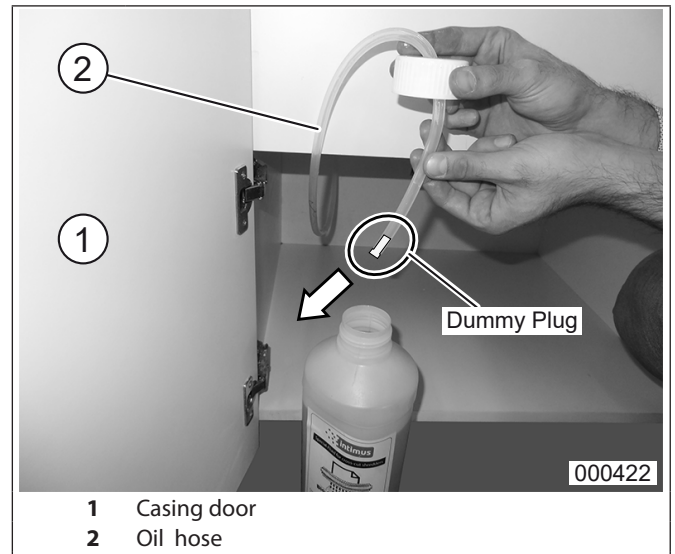

Fig. 2 Remove Dummy-Plug
1. Open door of the casing (Fig. 2/1). Remove catch basket.
2. Pull the oil hose forward a little (Fig. 2/2).
3. If the oil container is mounted for the first time please remove the dummy plug (screw, Fig. 2) from the transparent hose.